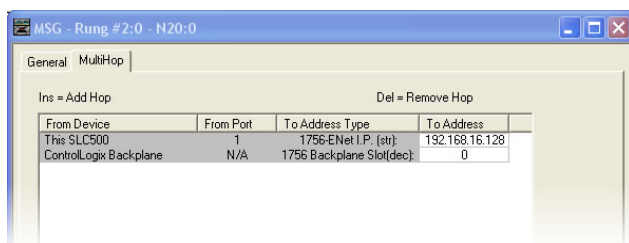

Figure 114: MSG Configuration, "MultiHop" Tab
- Under the "MultiHop" tab settings, set the "To Address" in the first row to the inverter's IP address, and the "To Address" in the second row to 0. Refer to Figure 114.